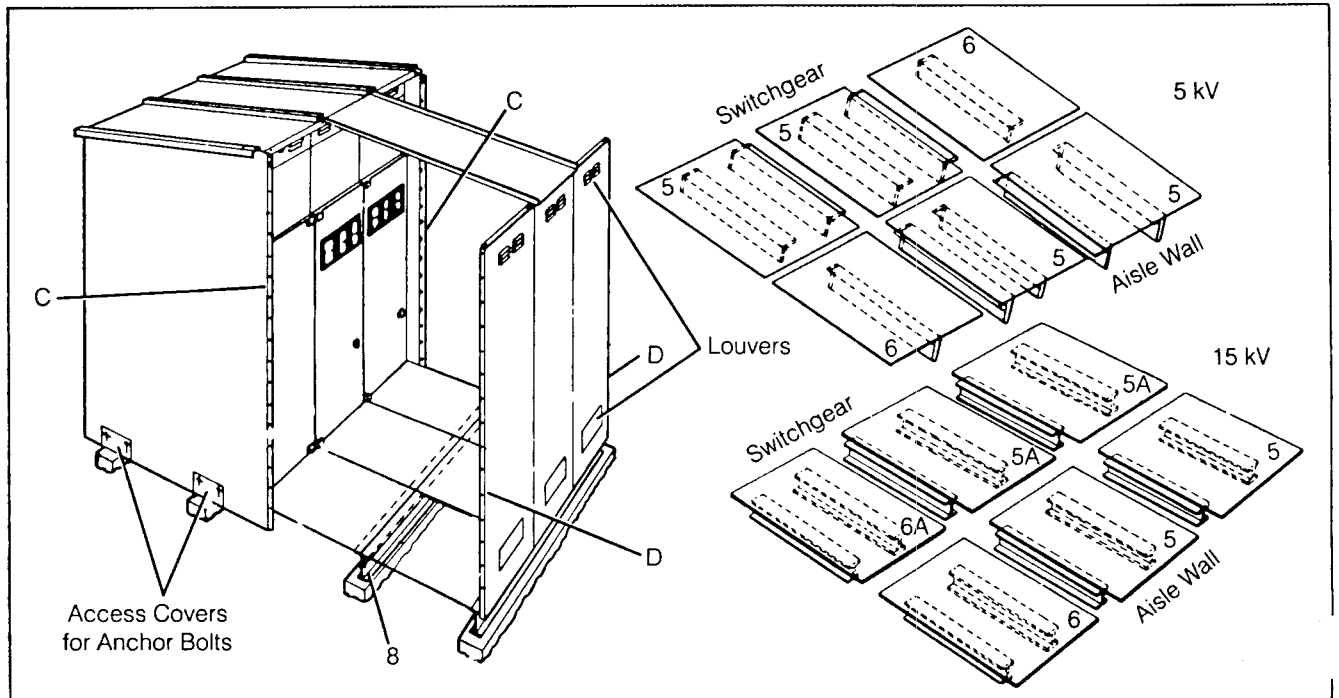

Figure 25. Floor Plate Installation — Single Aisle Layout
- Put roof covers (4) in place to hold top of aisle wall in place. Do not tighten hardware. Remove and discard the buffer angles at the bottom of the unit. These angles are installed to prevent bending of the aisle wall during shipping. If not removed, they may interfere with installation of floor plates.
- Align the ends of the aisle wall, aisle beam and switchgear. Place two sets of floor plates in position between the switchgear and the wall. Install each set next to the end position between the switchgear and the wall. (See Figure 25 for location of floor plates.) With floor plates set tightly against switchgear floor plates, check and adjust center beam and aisle wall beam location to provide a good fit with minimum size cracks between plates and a smooth surface. Check that aisle wall is square with switchgear by diagonal measurements at floor level — corner to corner distances should be equal. Tighten anchor bolts to secure beam locations.
- Install all floor plates using 5 kV or 15 kV pattern as shown in Figure 25. Each plate overlaps the supporting member of the next plate; therefore, determine sequence of installation accordingly. Place each set of floor plates to equalize the space between floor plates and prevent a wide crack at end of group.